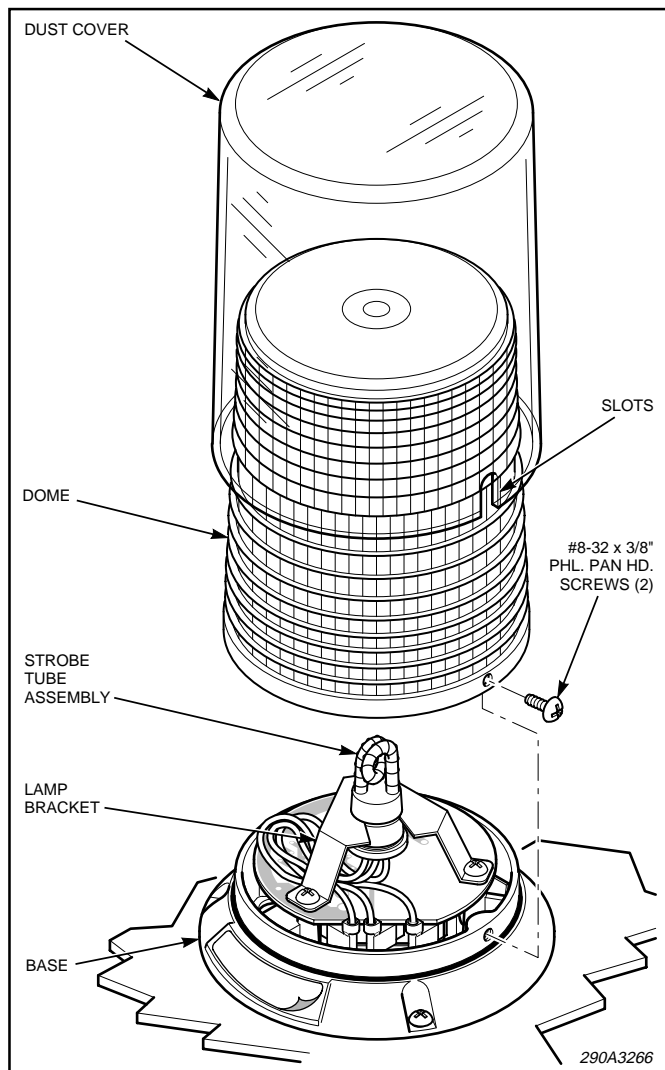

Figure 4.
3. See figures 4 and 5. Using a long nose pliers, disconnect the strobe tube's red, white, and black wires at the edge of the PCB.
6. Connect the red, white, and black wires to the appropriate terminals on the PCB. Ensure that the wires are looped to the left as shown in figure 4.